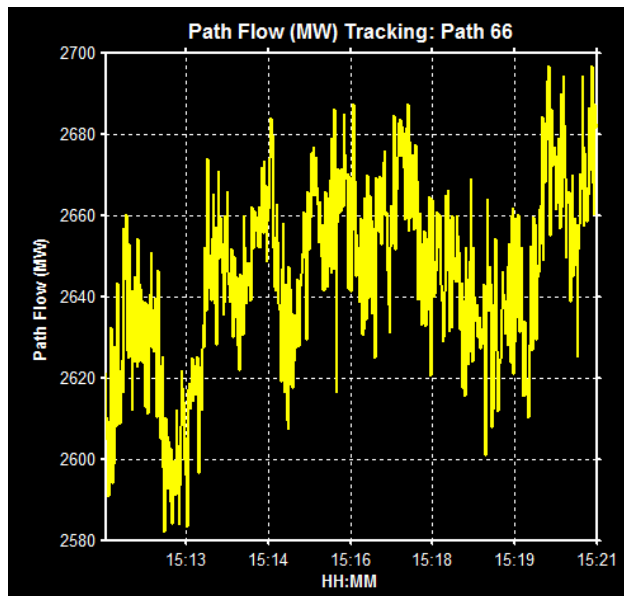

Figure 61: Path Flow (MW) Tracking (Panel 2)
Panel 2 - the “Path Flow (MW) Tracking” - shows the actual MW flow over a specific path when selected (Figure 61). The panel provides a time history of the MW flows across the selected path at the second resolution. The x-axis of the plot is time in minutes and seconds (MM:SS) and the y-axis is the MW flow. A path is selected with a left mouse click on the arrowhead in the geographic display for the path and will be indicated by a white border around the arrowhead. The time duration of the plot may be altered via a pop-up menu made available using the right click within the panel.